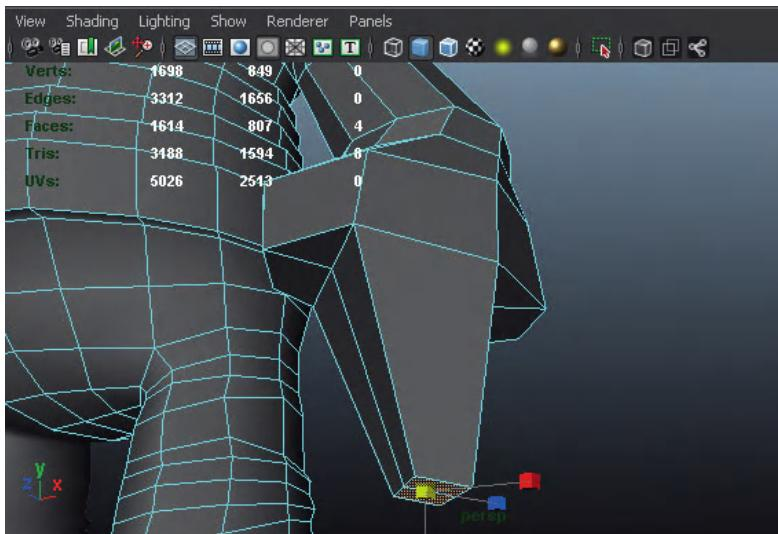

FIG 4.77 The start of the middle finger.
Step 95: Extrude out the middle finger. Select the faces shown in Fig. 4.77 and extrude down a shape that approximates the middle finger.